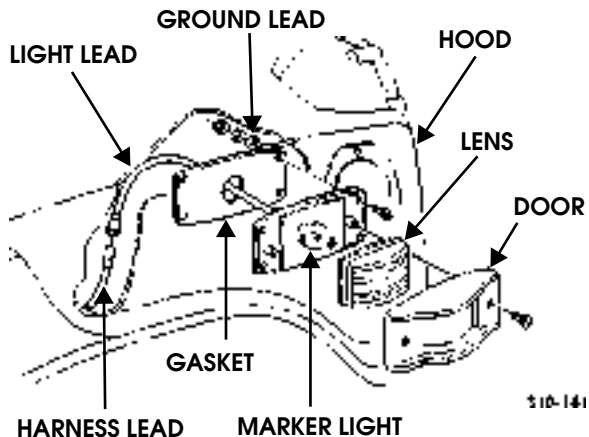

Figure 10-157: Side Marker Light Assembly
2. Disconnect harness lead from marker light lead (Figure 10-157).
1. Secure gasket, lamp holder, and ground lead on hood with four screws, washers, and locknuts (Figure 10-157).